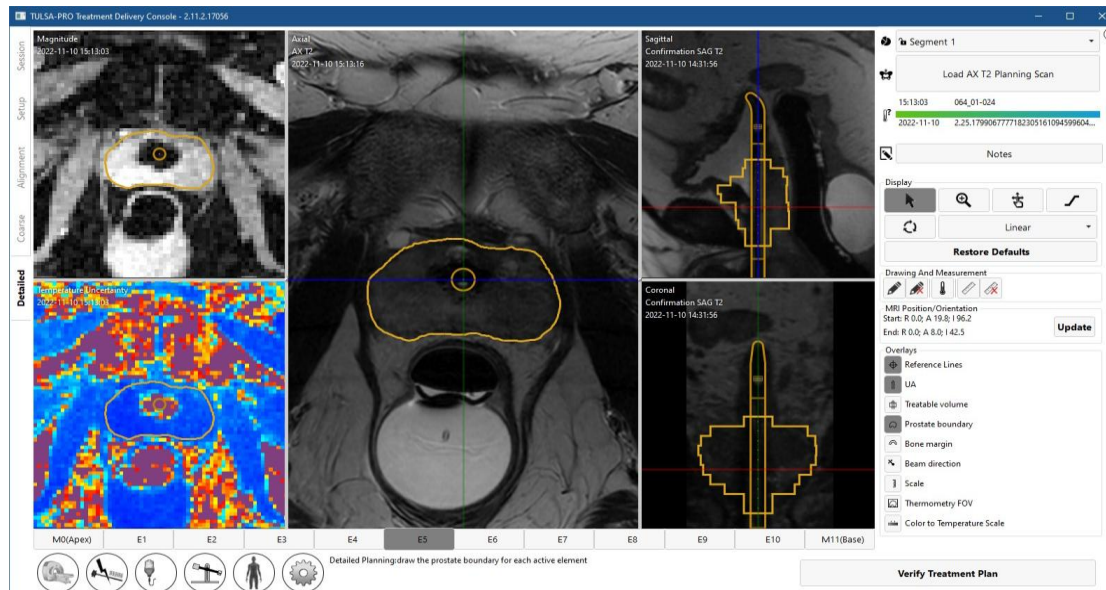

Figure 41: Detailed Planning after drawing boundaries
1. Draw or edit the boundary to outline the tissue to be ablated on each slice based on the corresponding AX T2 and THERM magnitude images (*Figure 41*). Tools to customize the boundary are described in the following *mpMRI Vision*, *Treatment Arc*, *TULSA-AI Volume Reduction (VR)*, and *Contouring Assistant*. You can select individual slices by clicking on the numbered tab at the bottom of the screen or by pressing the left and right arrow keys on the keyboard. Use the sagittal and coronal views of the SAG T2 images to verify the intended ablation zone in three dimensions.